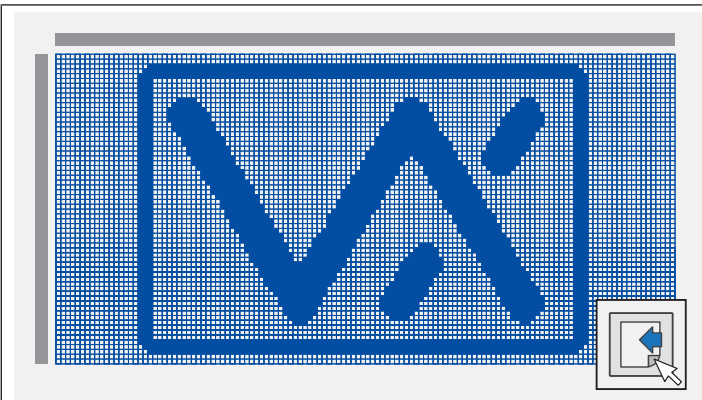

Fig. 89
1. Click on the import icon. When the open window appears locate the required image (logo etc.) and click on the 'OPEN' button to import the file, **Fig.89**.